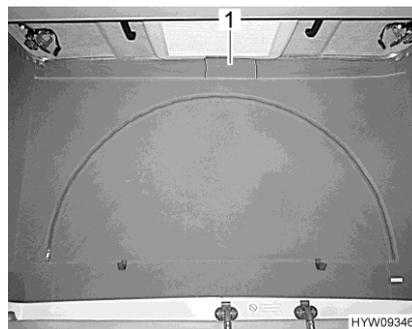

Fig. 37 Ventilation (closed)
- Release the Velcro of the fabric flap (Fig. 37,1) underneath the sleeping roof. A mesh is installed behind the fabric flap as protection from insects.